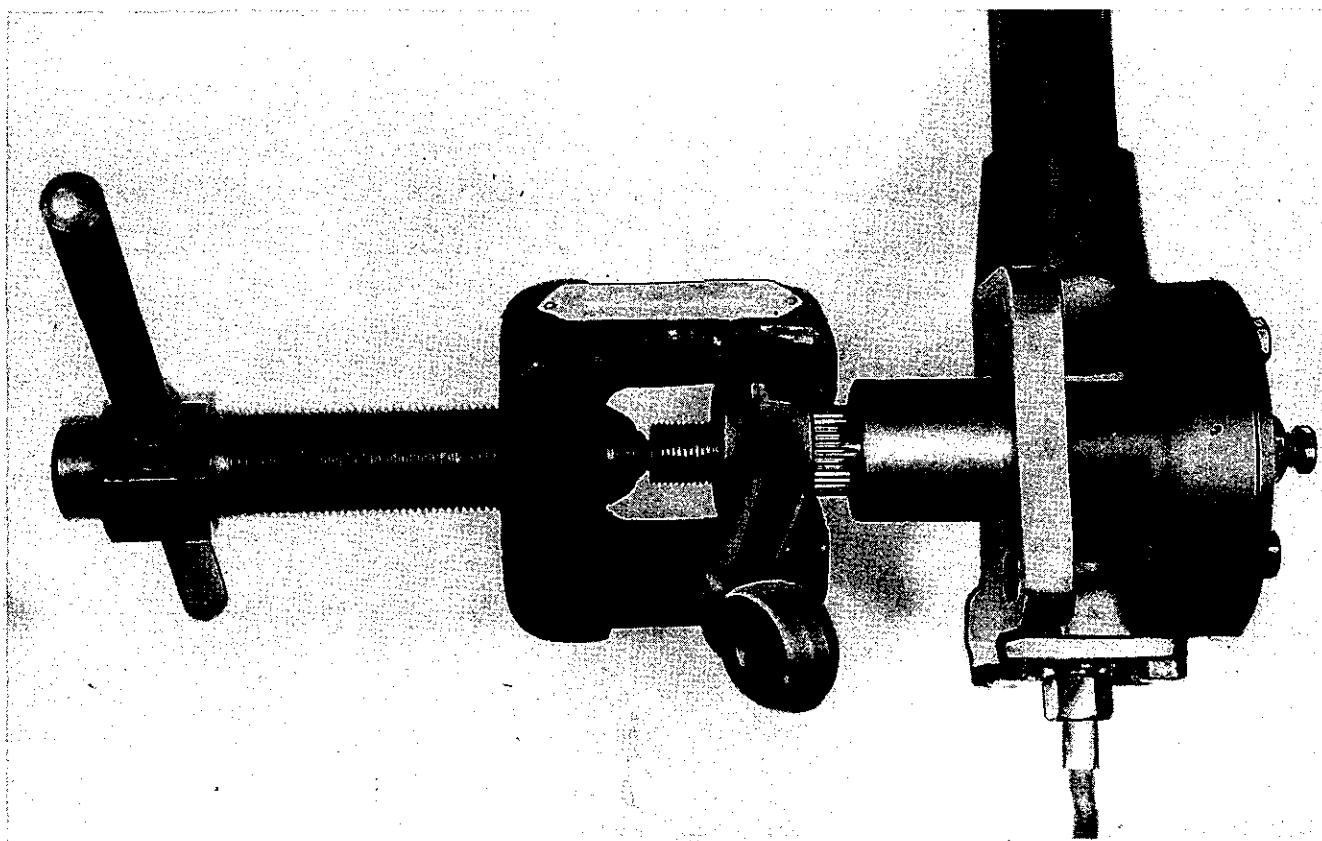

Fig. 7. Showing Churchill drop arm puller in use—Tool No. SK998
circumstances must the lever be removed from the rocker shaft by hammer blows. A proper extractor tool must be used as shown in Fig. 7 to remove this lever, as hammer blows may cause the taper peg to indent the cam track and cause serious damage.
2. Extract drop arm with extractor as shown in Fig. 7. Note the relation of scribed line on drop arm and rocker shaft, as shown in Fig. 8 for refitting.